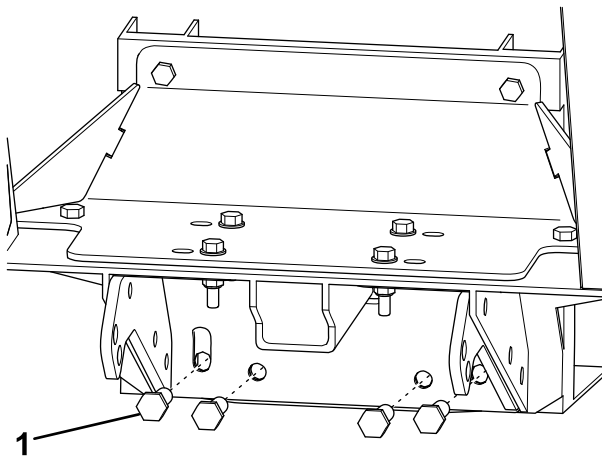

Figure 4
- Loosely secure the bottom of the skid plate to the vehicle frame using 4 bolts (M12) as shown in Figure 4.